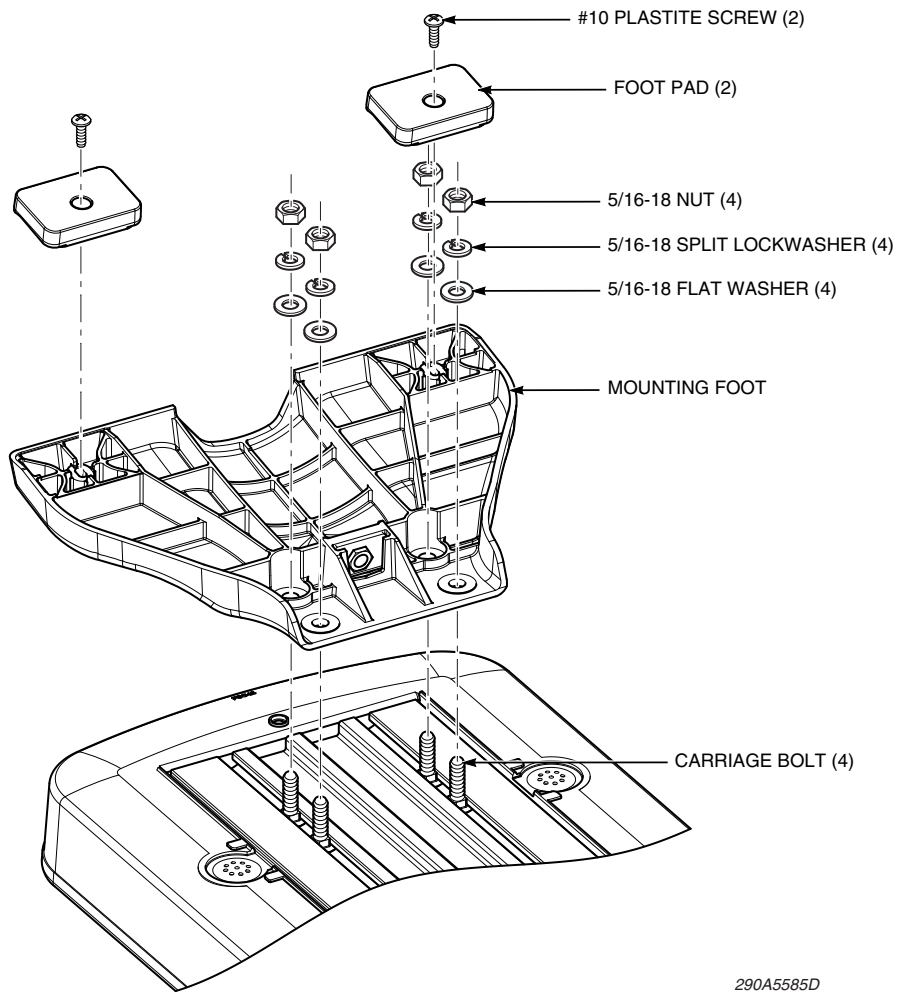

Figure 2: Hardware securing the foot to the vehicle
2. Insert two 5/16-18 carriage bolts into each track (four total) through the center access holes in the lightbar (Figure 2 on page 3).